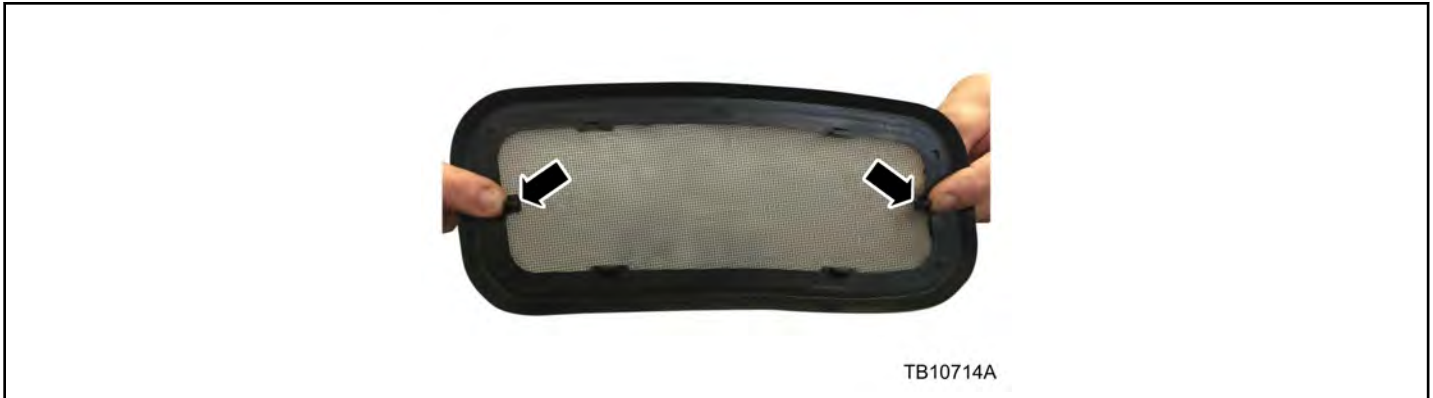

Figure 2 - Article 16-0018
6. Install the new screen assembly. (Figure 2)